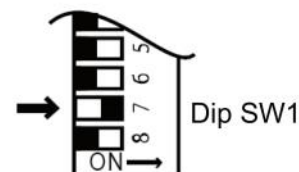

Fig. 3
10. Set the Rinnai to **'Forced Low'** combustion by setting No.7 switch of Dip SW1 to 'ON'. (Fig. 3)